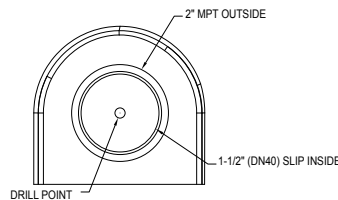

Figure 3.2
1) Adding bathroom fixtures - The Qwik Jon® Ultima is designed to accept bathroom fixtures utilizing the two side inlets. These inlets can be attached via the 2" MPT (outside diameter) or the 1 1/2" slip (inside diameter). These inlets must have the inner portion drilled out using a 44 mm (1 3/4") hole saw (see Figure 3.2). This is to ensure there are no leakage problems from inlets not in use. When utilizing side inlets, install a check valve on the incoming line.